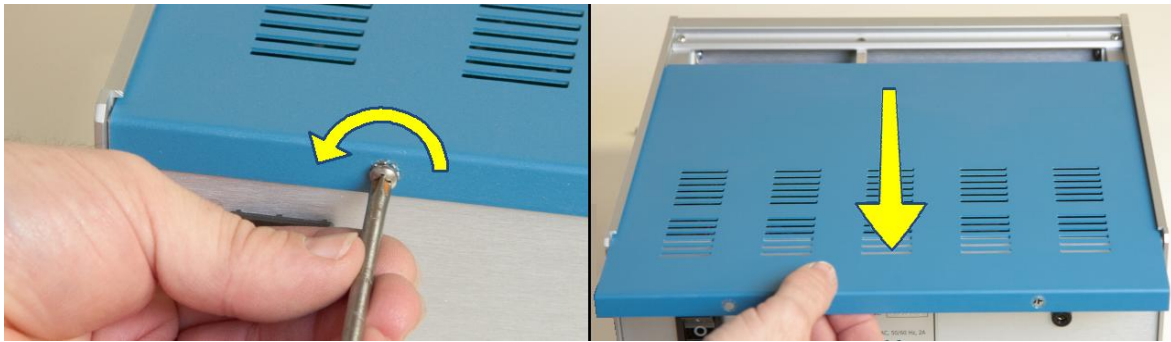

Figure 2-1. Removing AFMSRCE Control Unit Cover
2. With the power cord disconnected, remove the cover from the control unit (see Figure 2-1).